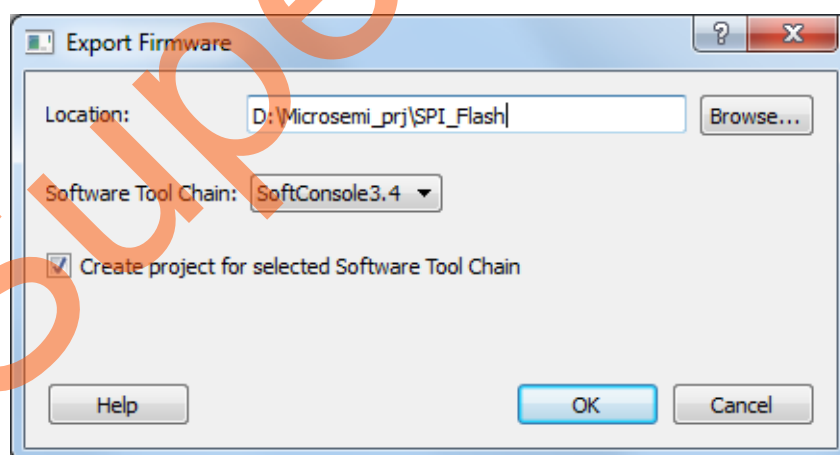

Figure 17 • Export Firmware Dialog
3. Export Firmware dialog box is displayed as shown in Figure 17.